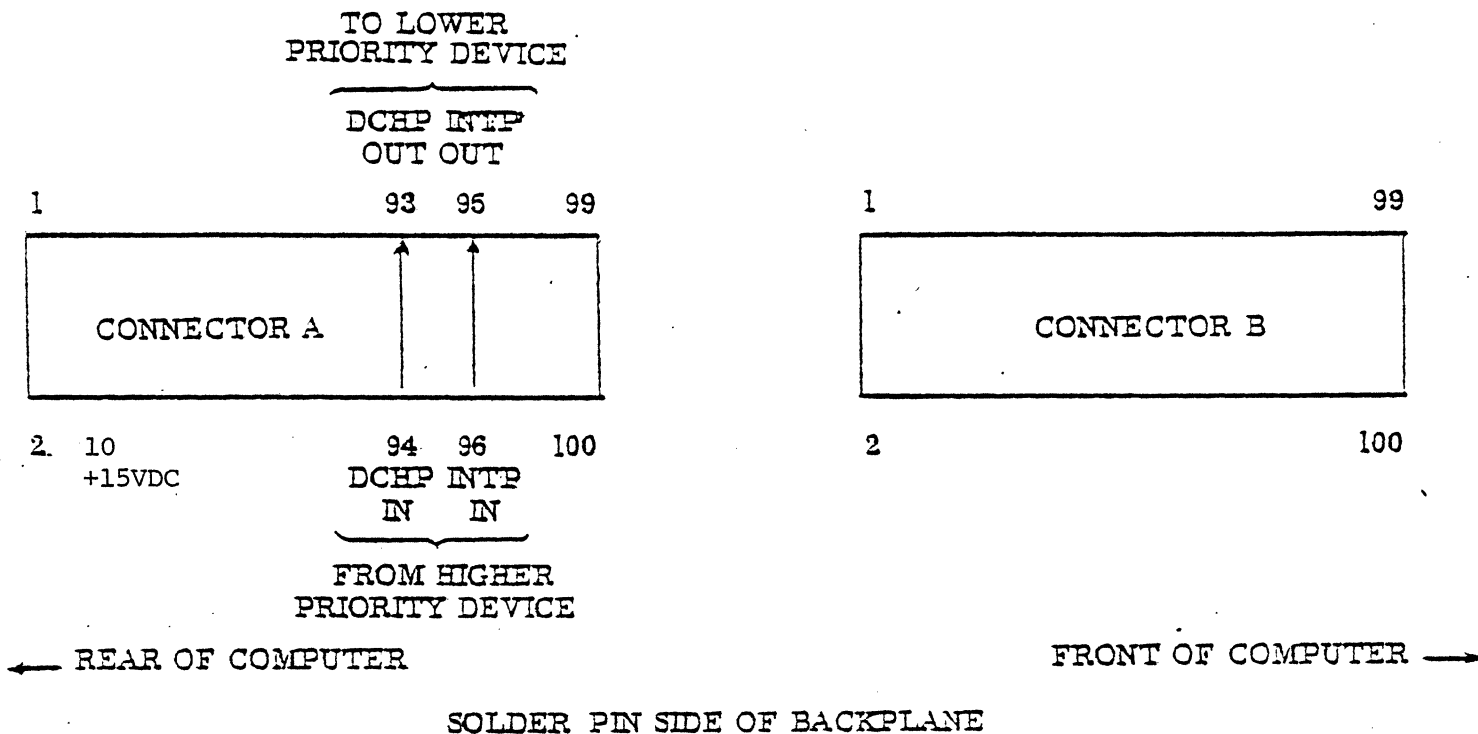

Figure 2-3 Computer Backplane Connector
2.19 PRIORITY JUMPERS. The data Channel Priority and the Interrupt Priority lines are daisy-chained to the I/O devices. As shown in Figure 2-3, each device receives these signals on pins A94 and A96 and sends these signals from pins A93 and A95 to the next device. There can be no break in the chain throughout the I/O devices. A previously unused card connector may have jumpers across these pins. Remove these jumpers from across the controller's backplane connector pins and check that the priority lines are daisy-chained from the CPU through the devices.